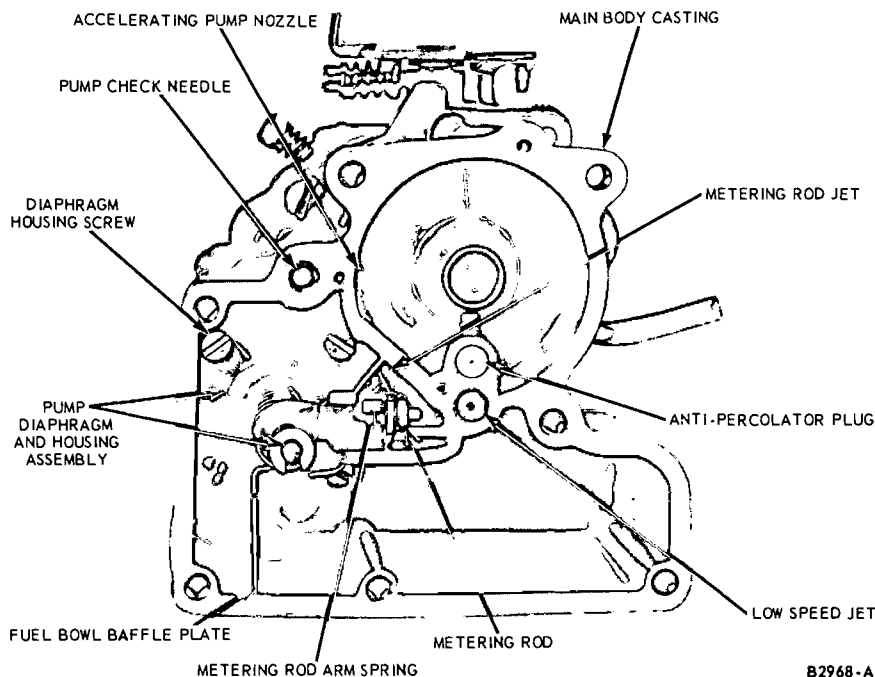

FIG. 49—Pump Diaphragm and Housing Installation—Carter Model YF 1-V
or screwdriver remove the low speed jet and the metering rod jet (Fig. 49).
1. With the proper size jet tool (or screwdriver) install the low speed jet and the metering rod jet (Fig. 49).